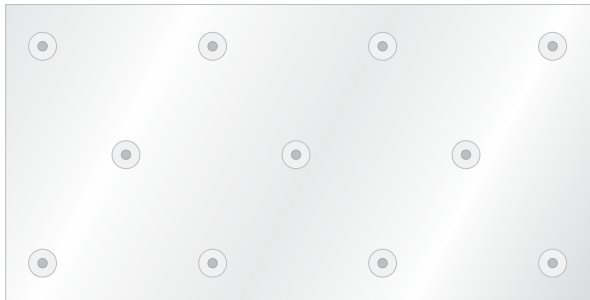
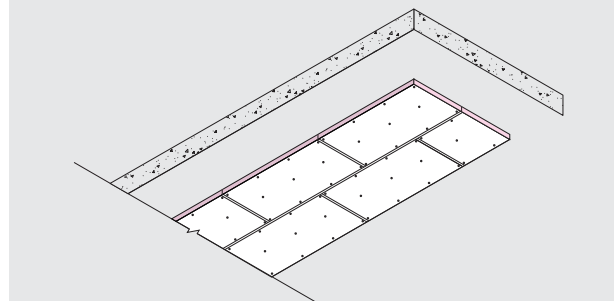
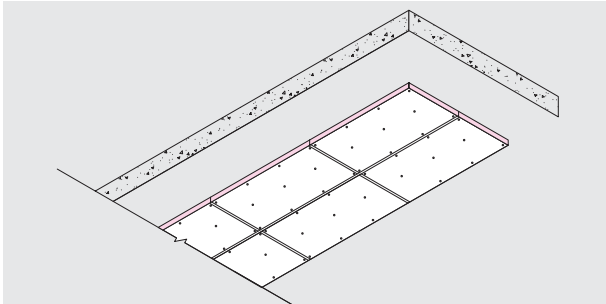

Figure 2. Fastener pattern (11 per board)
Figure 4. Board joints staggered.
Figure 5. Board joints squared.
2. Board joints can be either staggered (see Figure 4) or squared (see Figure 5, overleaf) and taped with 96 mm wide silver Kingspan Insulation Tape. Four fasteners along each length - no less than 50 mm - no more than 150 mm from edge of board, three fasteners along the middle (offset from edge positions as per diagram Figure 2).